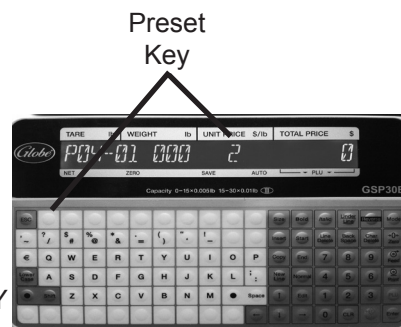

Figure 12-1
6. Press the desired preset key. See Figure 12-1.